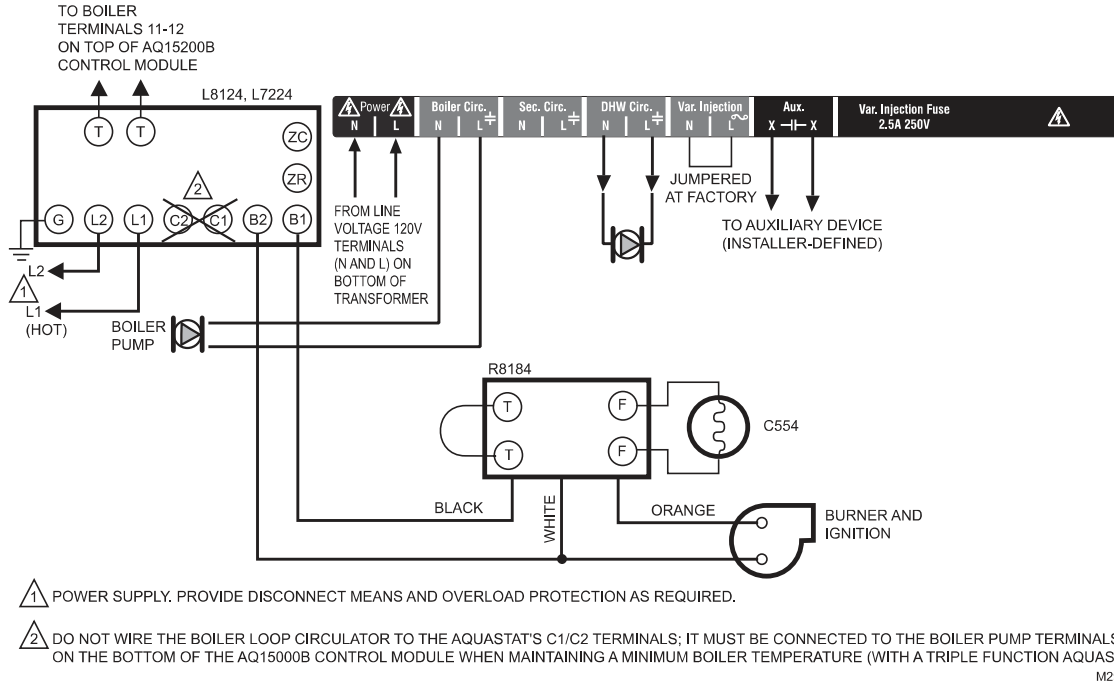
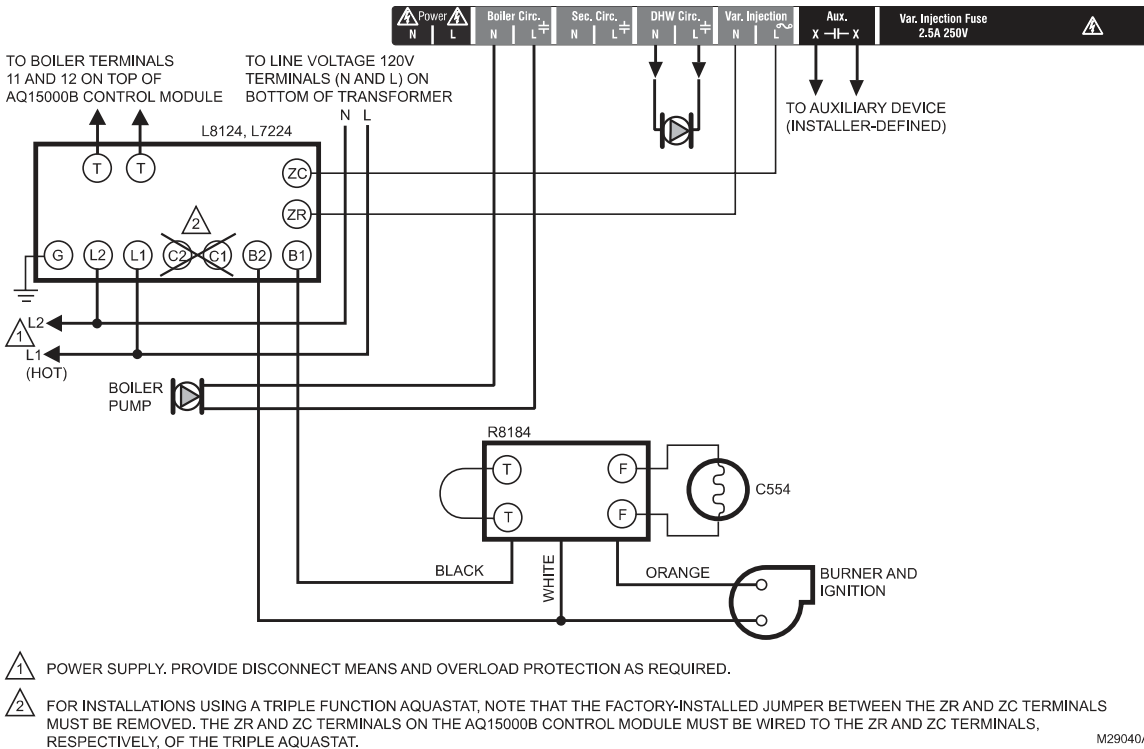

Fig. 14. Line Voltage Connections for AQ250.
Fig. 15. Line Voltage Connections for AQ250 using triple function Aquastat.
Wire the Boiler dry contact output (terminals 11 and 12) to the T-T terminals on the boiler Aquastat or the boiler's control panel. See Fig. 14 on page 11 for wiring connections to a typical boiler Aquastat.
It is not necessary to use the T-T terminals if connecting to a Triple Aquastat, since the signal to the Aquastat is received from the ZR/ZC terminals. See Fig. 14 and Fig. 15 beginning on page 11 for line voltage connection to boiler Aquastats.
See Fig. 14 and Fig. 15 on page 11 for wiring diagrams for the line voltage outputs.
**NOTE:** It is not necessary to connect the boiler equipment's "T-T" terminals to the low voltage BOILER dry contacts (Terminals 11-12) of the AQ250 when using a Triple Aquastat on the boiler. See Fig. 15 on page 11.